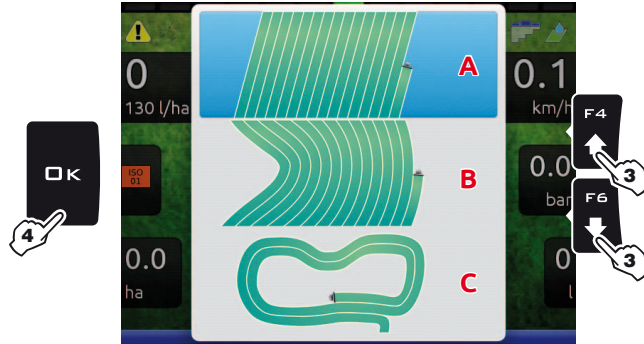

Fig. 344
- 3 Select a guidance mode (Fig. 344): press **F4** and **F6** to move across the available items (**A - Straight guidance mode**, **B - Curved guidance mode** or **C - Free guidance mode**)